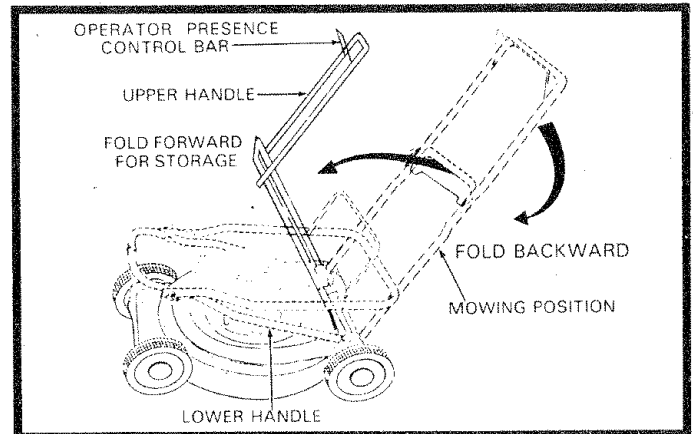

FIG. 19
- You can fold your lawn mower handle for storage as shown in Fig. 19.
**IMPORTANT:** WHEN FOLDING THE HANDLE FOR STORAGE OR TRANSPORTATION, BE SURE TO FOLD THE HANDLE AS SHOWN IN FIG. 19. IF YOU FOLD THE UPPER HANDLE SECTION THE WRONG WAY, YOU MAY DAMAGE THE CONTROL CABLES.